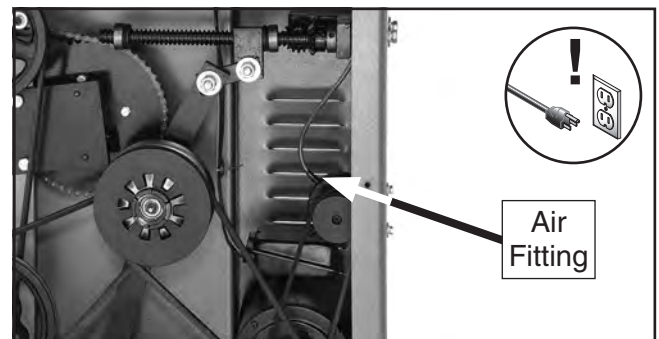

Figure 59. Drive system lubrication points.
2. Remove the air line from the fitting (see **Figure 59**), add two drops of quality air tool oil to the fitting, then re-install the air line.